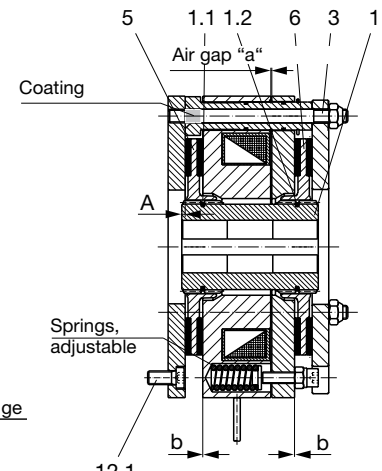

Fig. 12
- ❑ Dimension “A” (Fig. 12) must be kept to.
1. Mount the gear hub assembly (1) onto the shaft according to Fig. 12, **please observe dimension “A” according to Fig. 12; please observe the entire carrying length of the key, and secure axially** (e.g. using a locking ring).
2. If necessary, mount the flange plate (12) using the cap screws (12.1) (please observe the tightening torque).
3. Using light pressures, push rotor 1 (5) by hand over the O-rings (1.1 and 1.2) onto the gear hub (1) (Rotor collar faces away from machine wall or flange plate). Please make sure that the toothing runs smoothly. Do not damage the O-rings.
4. Manually screw in the double end studs (3) **with coating thread-side** until reaching the coating (screw-in limitation) in the threaded holes of the brake screw-on surface (machine wall) or on the flange plate, screw in by hand up to its limit (secure with LOCTITE 243).
5. Push brake body (2) over double end studs (3).
6. Manually push rotor 2 (6) onto the gear hub (1) (over O-ring (1.2)) (**Rotor collar faces away from machine wall or flange plate**). Please make sure that the toothing runs smoothly. Do not damage the O-rings.
7. Push brake plate (16) over double end studs (3).
8. Screw on brake evenly all around using the hexagon head nut (4). (**Tighten hexagon nuts with a torque wrench**). **Observe tightening torque.**